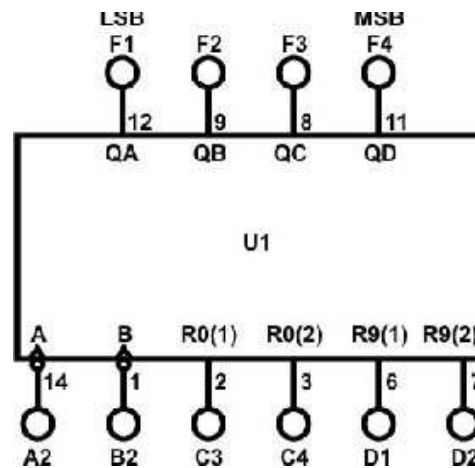
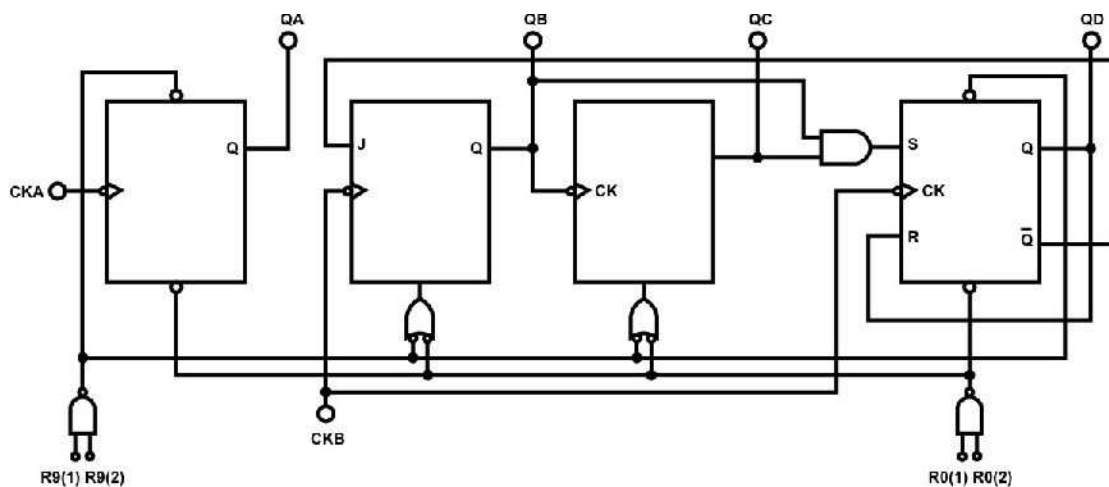

Figure 5.19: IC 7490 BCD Counter.
Figure 5.20: IC 7490 BCD Counter.
Locate the BCD counter (IC 7490) on the KL-33010 module, which is shown in Figure 5.19. The functional block diagram of the BCD counter chip is shown in Figure 5.20.
**Task3: change the connection of the counter in Figure 5.19 to count from:**